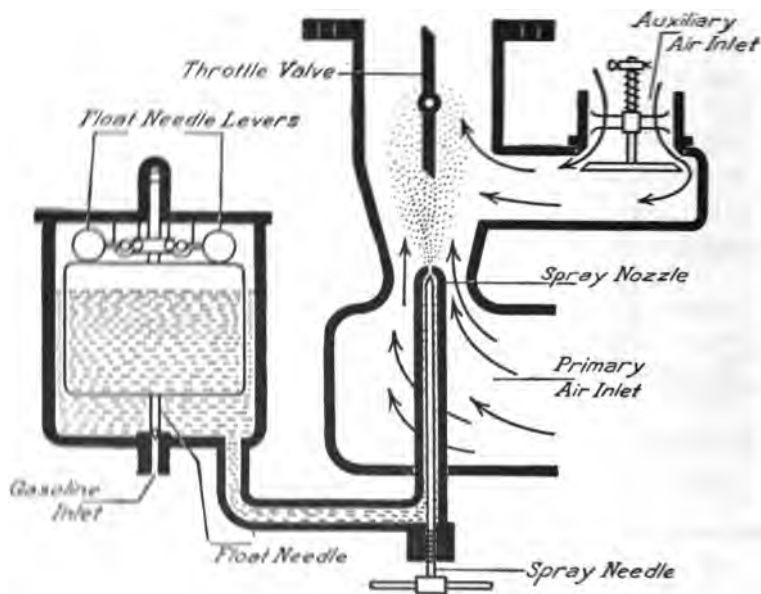

FIG. 91 Carburetor, showing spray needle and auxiliary air inlet.
10. What is the function of a spray needle? See fig. 91.